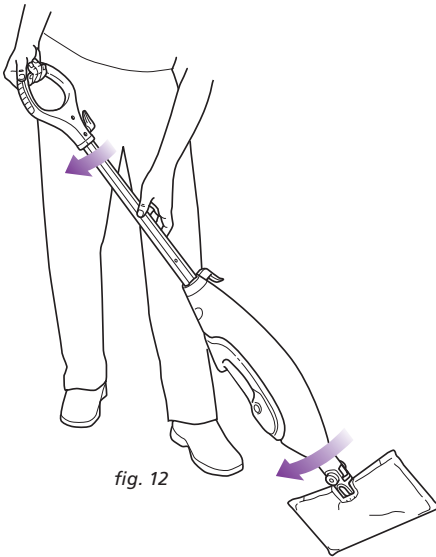

fig. 12
- 5 When one side of the all purpose cleaning pad gets dirty, just flip the mop and you can quickly start using the other side. (fig. 12)